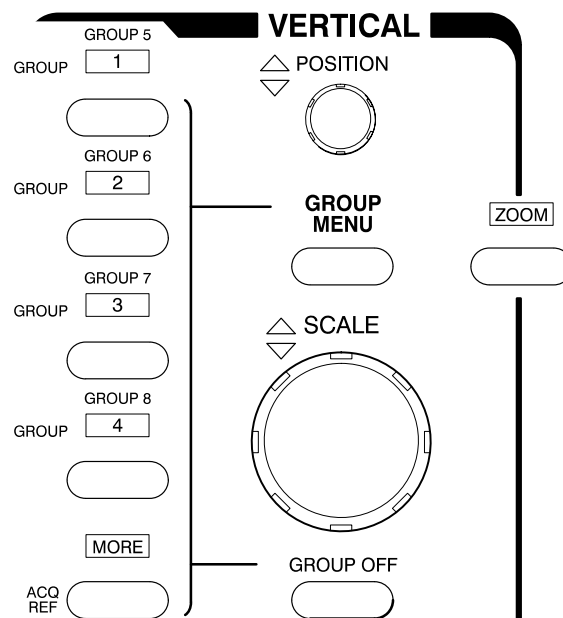

Figure 1-8: The Group Buttons and LEDs
2. Locate the **VERTICAL** section of the front panel and the group selection buttons it contains. (See Figure 1-8.) These are labeled **GROUP 1** through **GROUP 8** and **MORE**. (Pressing **SHIFT** before pressing a group button selects the group appearing above the button: one of **GROUP 5** through **GROUP 8**.)